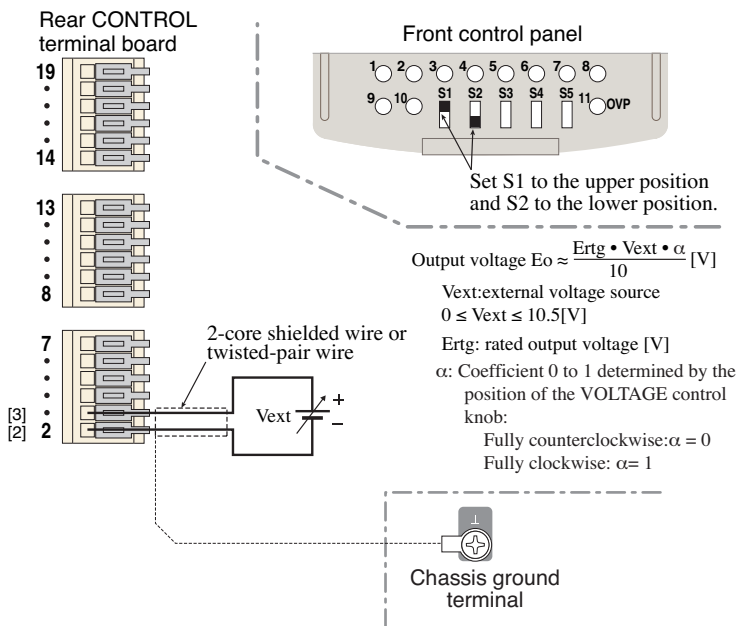

Fig.4-9 Connection and setup for output voltage control using external voltage
- For output voltage control with an external voltage, you can use the VOLTAGE control knob to adjust the ratio of the output voltage to the input voltage from the external voltage source (Vext). (See Fig.4-9.)
4. Set the control switches S1 and S2 to the position shown in Fig.4-9.
5. Connect the voltage source across the control terminals [2] and [3] as shown in Fig.4-9.